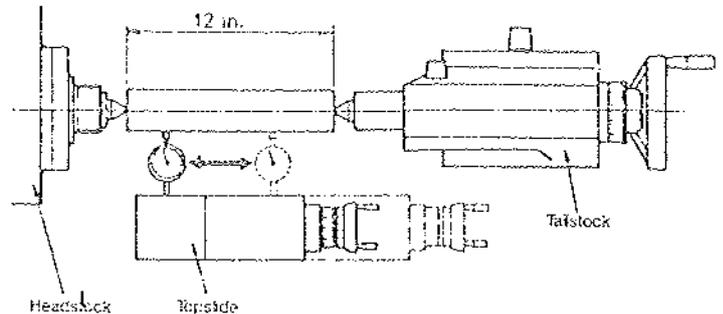

Fig. 27
1. Fit a 12" ground steel bar between centers of the headstock and tailstock. (See Fig. 27)